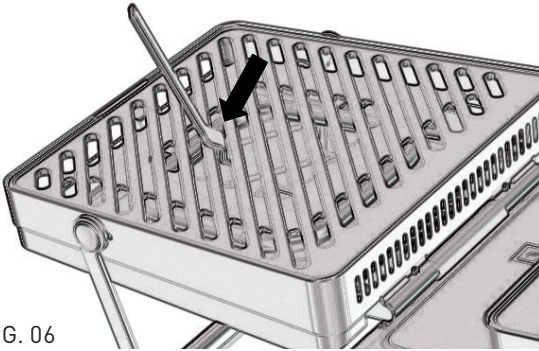

FIG. 06
1. Use the grate removal tool supplied and insert into one of the slits nearest the center of the grill. (Fig. 06)